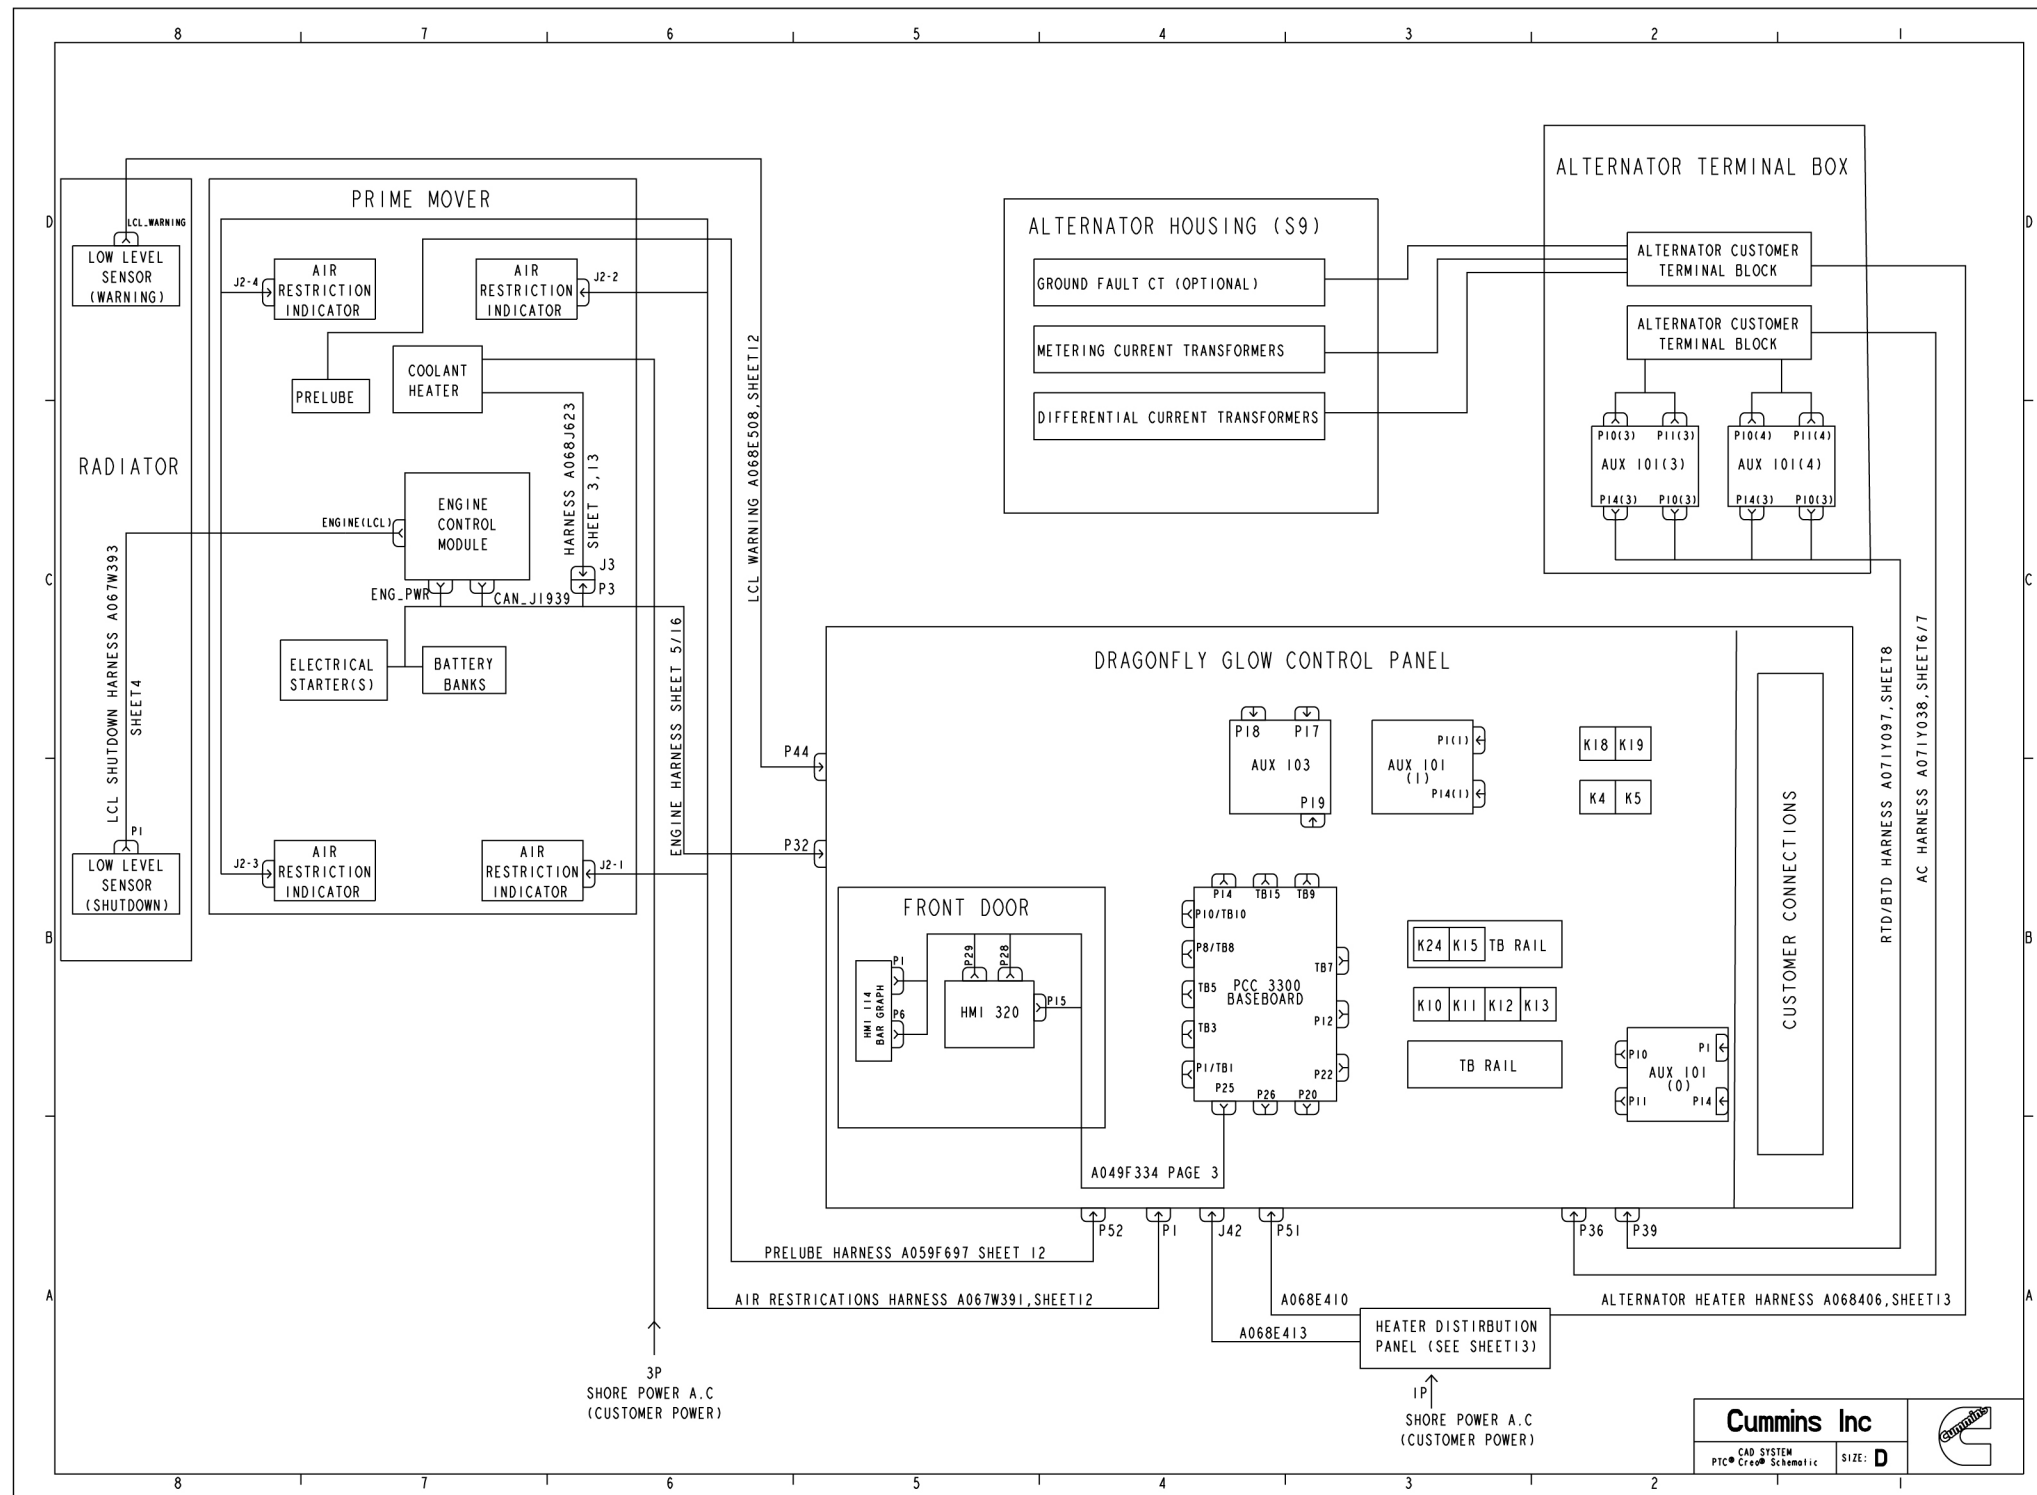

FIGURE 86. WIRING SCHEMATIC (SHEET 2)
- Figure 86. Wiring Schematic (Sheet 2) 390